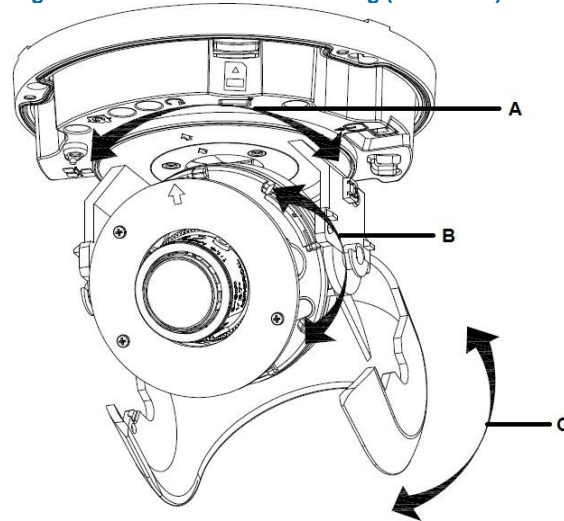

Figure 5
1. Gently lift the tilt adjustment (C) (Figure 5).
10. Adjust the camera lens position as follows. See Figure 5.
- **Pan Adjustment (A):** Rotate the lens base until you are satisfied with the field of view.
- **Tilt Adjustment (B):** Tilt the eye-ball assembly as needed.
- **Rotate Adjustment (C):** Rotate the 3D assembly in the camera base.